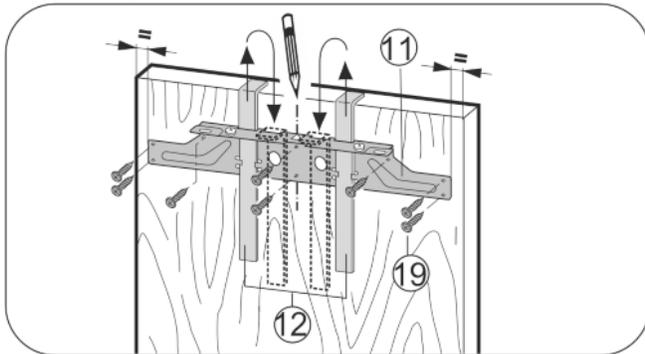

Fig. 28
- ▶ Hang the crosspiece Fig. 28 (11) on the inside of the unit door using the fitting aids Fig. 28 (12). With a 23-5/8 " (600 mm) wide recess:
- ▶ Align the crosspiece Fig. 28 (11) to the middle of the door.
- ▶ Align the crosspiece (11) to the middle of the door.
- ▶ Left strip: Move the crosspiece (11) 1/4 (6 mm) to the left.
- ▶ Right strip: Move the crosspiece (11) 1/4 (6 mm) to the right.
- ▶ Secure the crosspiece Fig. 28 (11) with at least 6 screws Fig. 28 (19).
- ▶ Secure the crosspiece Fig. 28 (11) with 4 screws Fig. 28 (19) at the edge.
- ▶ Lift up fitting aids Fig. 28 (12), turn round and insert into the adjacent openings.